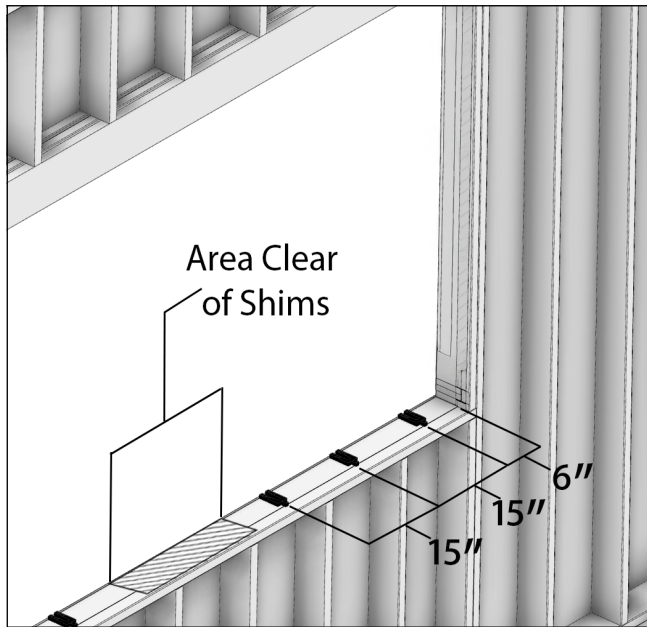

Figure 41
12. Shim unit: 1/16" shims are required to be applied to the sill prior to placing assembly in the RO. Do not shim under gusset plates. Shim spacing is 6" max from corner and 15" max on center. See Figure 41.